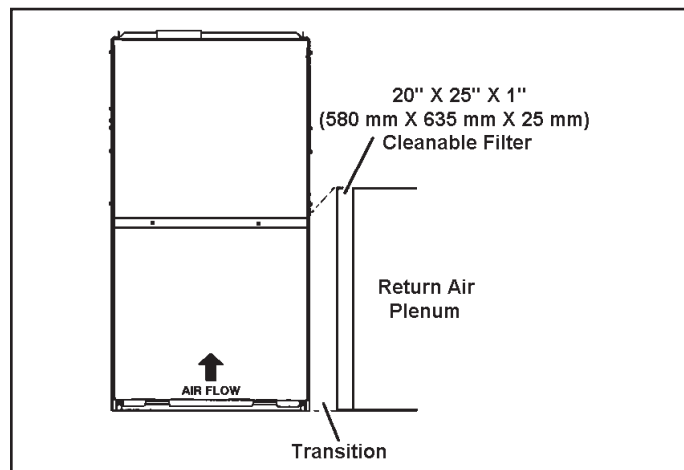

Figure 8. Single Side Return Air (with transition and filter)
1. Single side return air with transition to accommodate 20 x 25 x 1 in. (508 x 635 x 25 mm) cleanable air filter. (Required to maintain proper air velocity.) See Figure 8.
2. Single side return air with optional return airbase. See Figure 8.